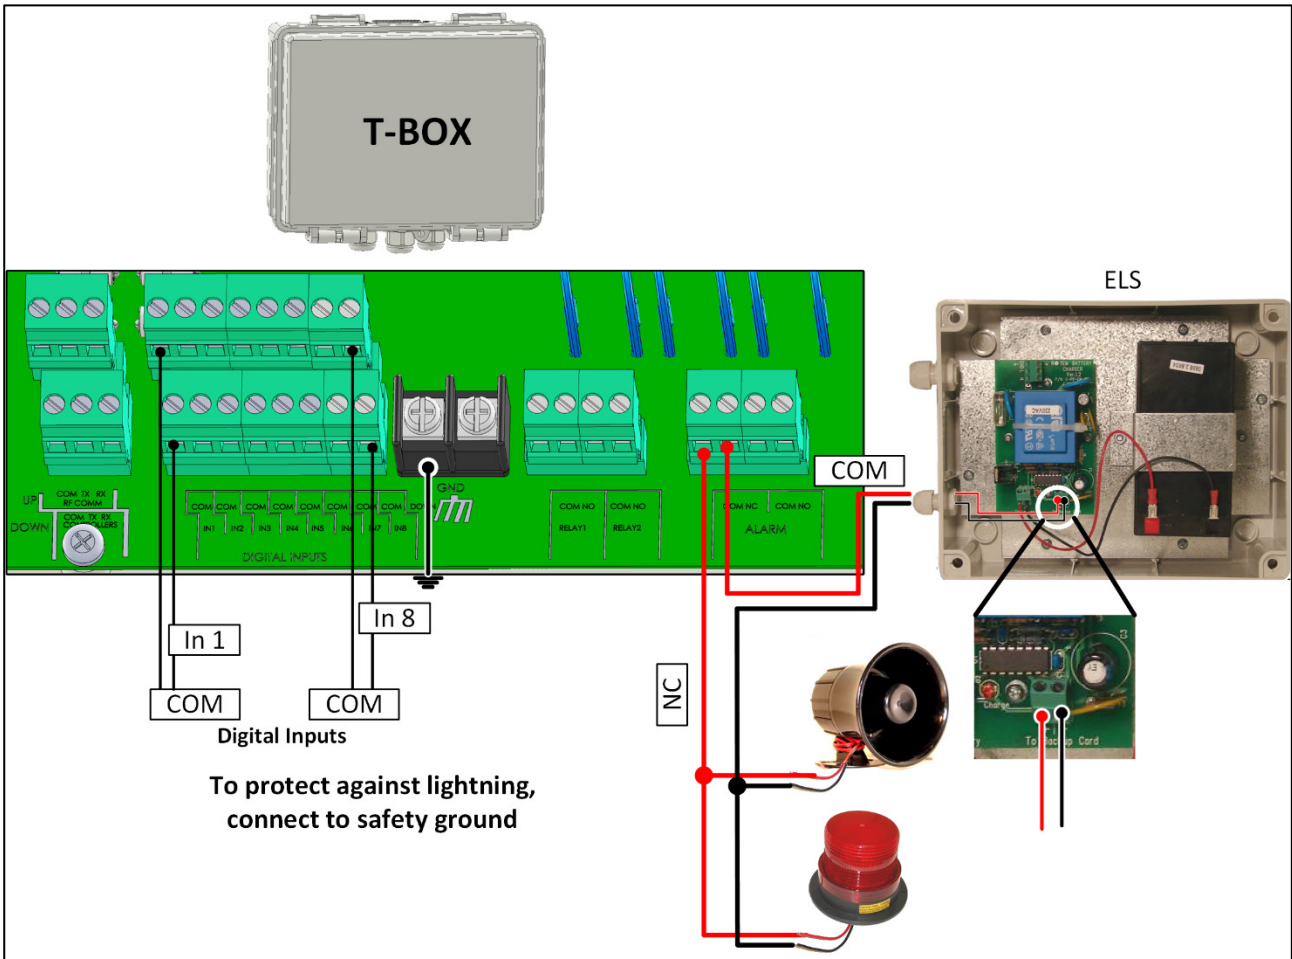

Figure 25: T-Box Wiring Diagram to ELS
If required, connect the T-Box to external devices and an ELS system (Figure 25).
2. Wire the devices as shown in Figure 25.